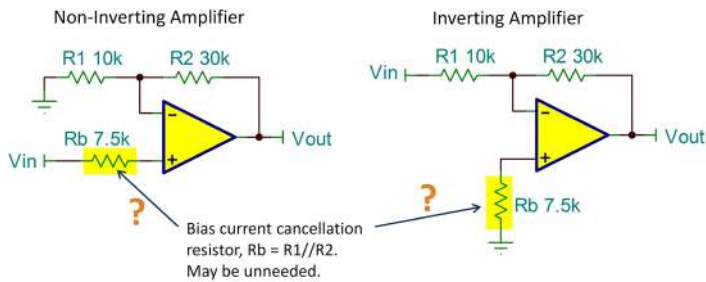

Figure 22: Resistor added to non-inverting input to match the source resistances.
Do you add a resistor to match the direct current (DC) resistance at the inputs of your operational amplifier (op amp) circuits? Check the circuits in Figure 22. Many of us were instructed to add  $R_b$  as “good practice,” making its value equal to the parallel combination of  $R_1$  and  $R_2$ . Let us look at the reason for this resistor and consider when it is appropriate and when it is not.